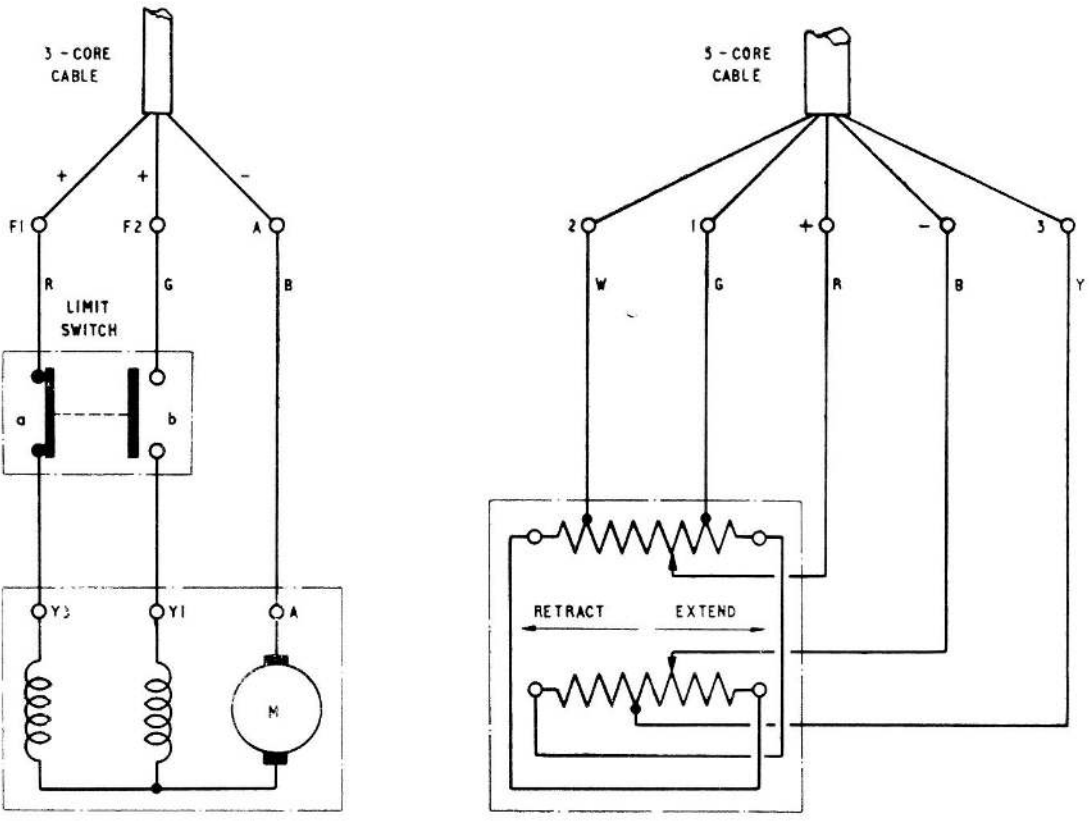

Fig. 4. Circuit diagram
10. The Desynn transmitter and limit switch unit, having its own gear drive and operating screw, is arranged to provide indications on the Desynn instrument for the various positions of plunger travel. The moving contacts on the cam plate make contact with two rheostats, as shown in the circuit diagram in fig. 4.